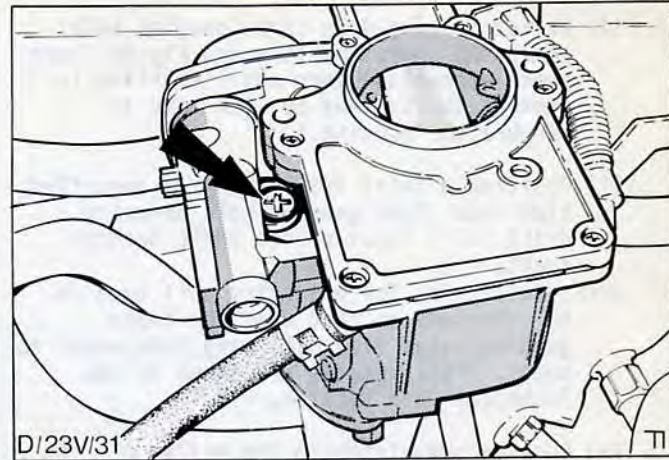

Fig.69. Choke gauging adjustment tamper-proof plug.
- i) Using a thin bladed screwdriver carefully prise out tamper-proof plug. Plug location shown in Fig.69.
- ii) By looking down hole where tamper proof plug was fitted, Fig.69, turn choke operating lever until drilling in central shaft lines up with hole in carburettor housing.
- ii) Whilst looking down choke gauging hole, refer sub-operation five and Fig.69, turn choke operating lever until drilling in central shaft lines up with hole in carburettor housing.
- vii) Remove twist drill and fit new tamper-proof plug to choke gauging location. Refer Fig.69.